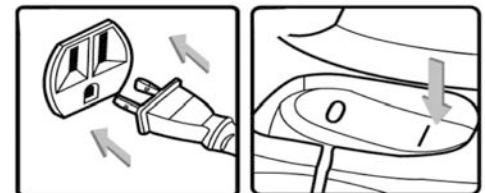

FIGURE 10
- 9) Start the vacuum by pushing the On/Off switch to the On position as shown in Fig.10. The On position is indicated by the international symbol "I" on the switch.